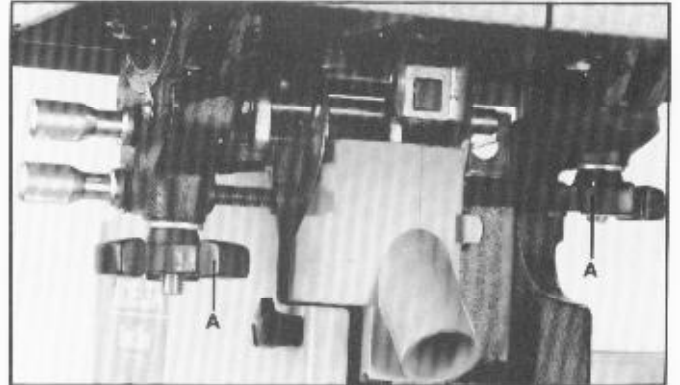

Fig. 12
The table on your band saw can be tilted 45 degrees to the right and 10 degrees to the left. To tilt the table, loosen the two lock knobs (A) Fig. 12, tilt the table to the desired angle and tighten the two lock knobs (A).